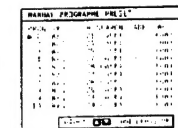

Fig. 20.
- 3 Select Manual Programme Preset with Δ or ∇ and press OK. The MANUAL PROGRAMME PRESET menu appears. (See Fig. 20.)